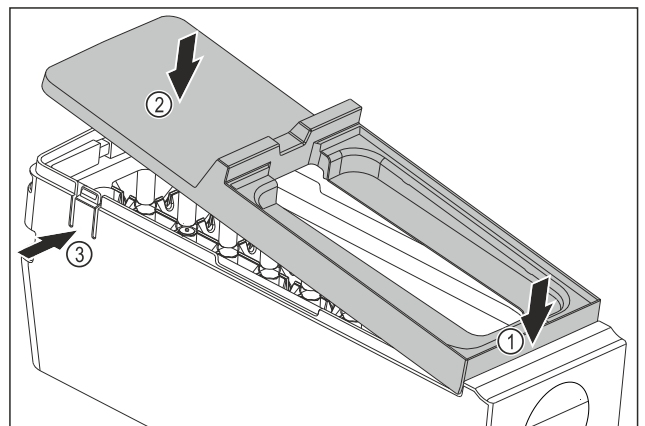

Fig. 80
- Installing the EasyTwist-Ice body cover: Place the cover on the front. Fig. 80 (1)
- Lower the cover at the rear. Fig. 80 (2)
- The cover locks into both tabs Fig. 80 (3) audibly.